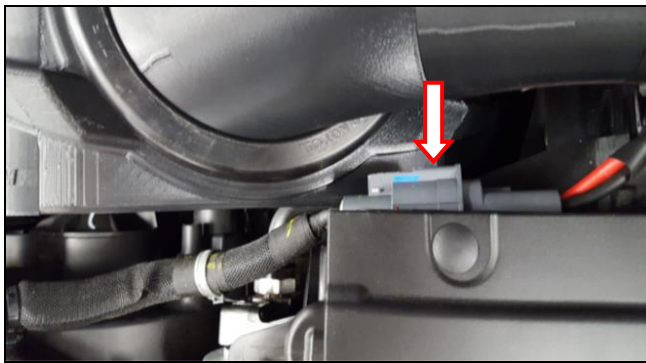
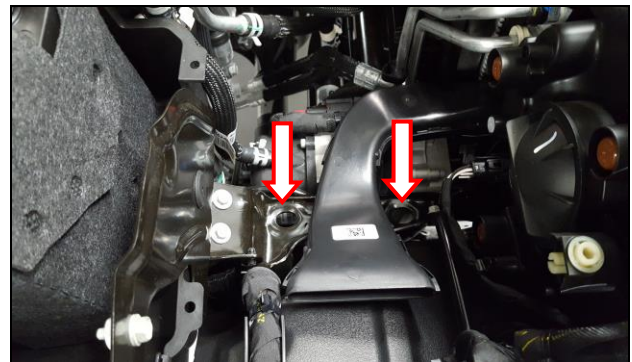

Figure 4
Figure 5
- While aligning the seal on the OE scoop against the fender, install the scoop and housing assembly into the vehicle (if necessary, disconnect gray wiring connector during installation to avoid damage to connector or housing **Figure 4**). The INTECH housing studs should be seated in to the factory grommets on the housing mount (**Figure 5**).